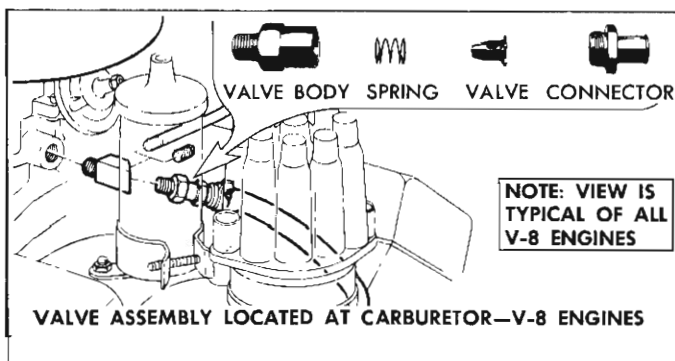

Fig. 11—Positive Ventilation System
### POSITIVE CRANKCASE VENTILATION (Refer to fig. 11)
5. Blow dry and reassemble (Fig. 11).